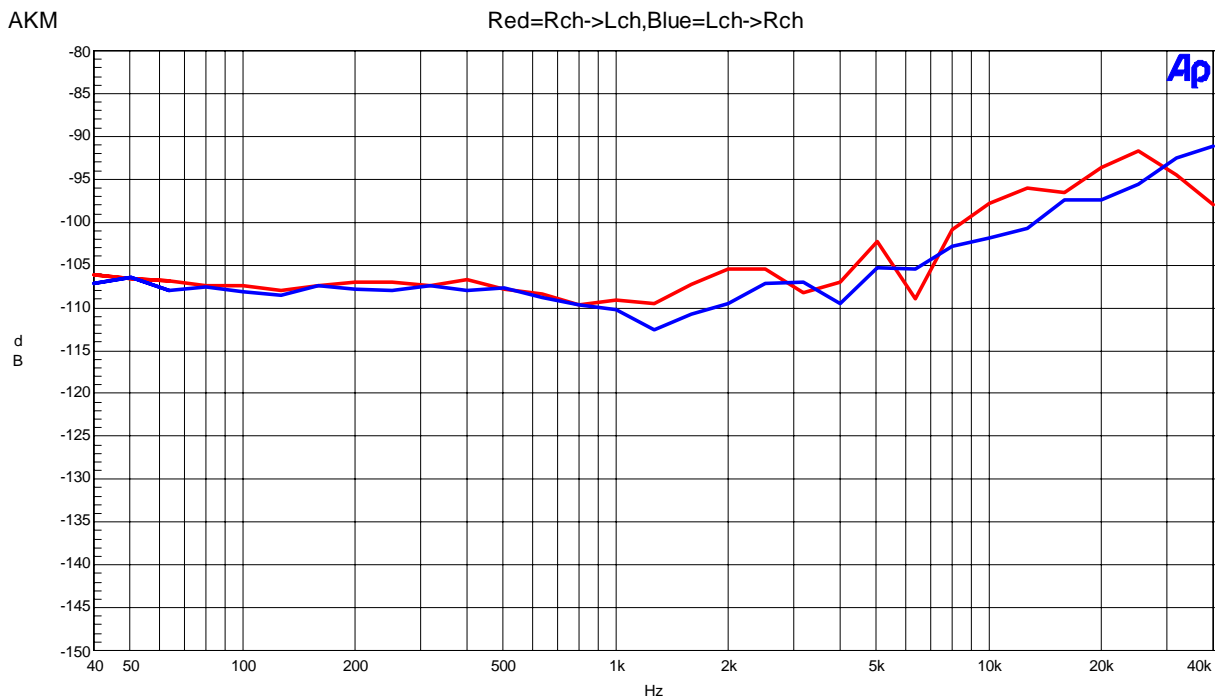

Figure 23. Crosstalk (Upper = Rch, Lower = Lch)
- Figure 23. FFT (Input Frequency =1kHz, Input Level =0dBFS)